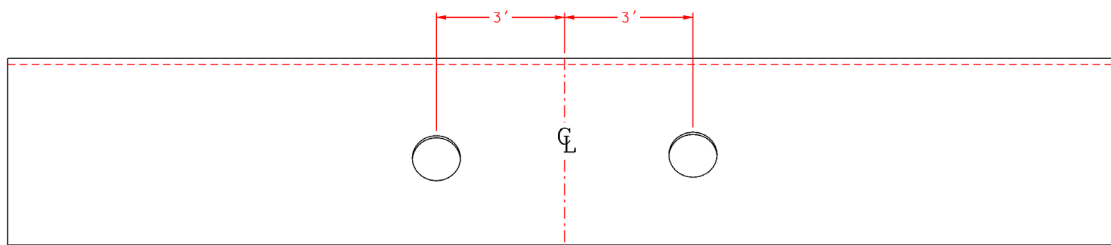
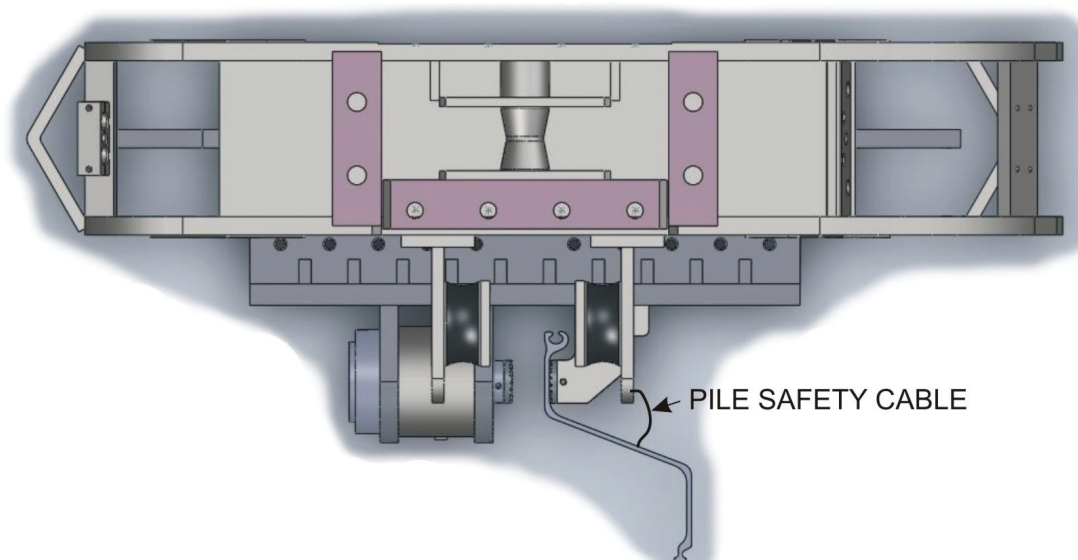

Figure 1
Figure 2
1. First, check that the lifting capacity of the excavator, at the working radius, exceeds the combined weight of the V-5Esc assembly and the pile. Then, lift the pile using an appropriately sized cable between the pad eye on the suspension assembly and the lifting hole in the pile. (Refer to figures 1 and 2). Once the pile is hanging nearly vertical, guide it into the hammer jaws or thread the pile into an already driven pile. Position the jaws on the pile (see figure 2) and close the jaws and start the hammer. The vibration, coupled with the down crowd force of the excavator drives the pile. Do not exceed the down crowd force rating.
2. Cut pile handling holes 2ft. or more above center of the pile on either side of center as required to position pile in jaws as shown in figure 1.
⚠ DANGER The V-5Esc side clamp attachment is designed to handle a single pile with a **MAXIMUM** weight of 2 TONS. Appropriate pile lifting rigging should be supplied by the end user to handle the pile in a safe manner. Attach cable(s) to lifting eye(s) on the hammer to allow safe handling of the pile and placing it in the jaws as shown in figure 2.